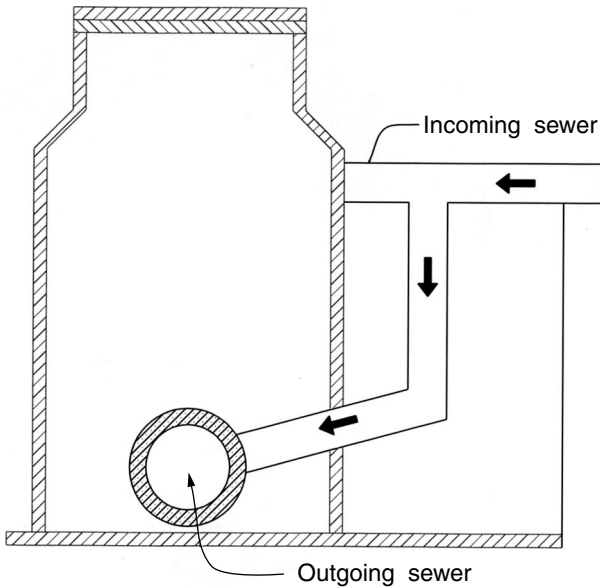

FIGURE D-7 Drop manhole.
**Drop manhole** A manhole used to match the grades of two sewer lines with a considerable difference (e.g., more than 2 ft). The wastewater from the incoming line falls through a vertical pipe to the elevation of the outgoing line. See Figure D-7.